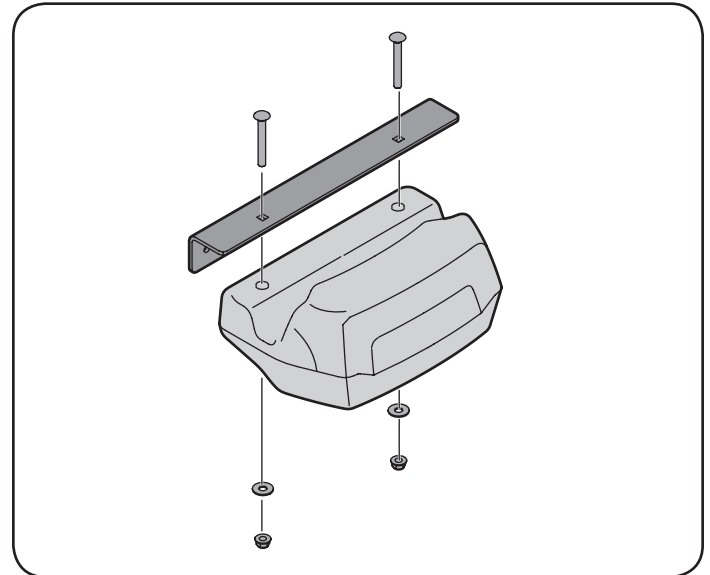
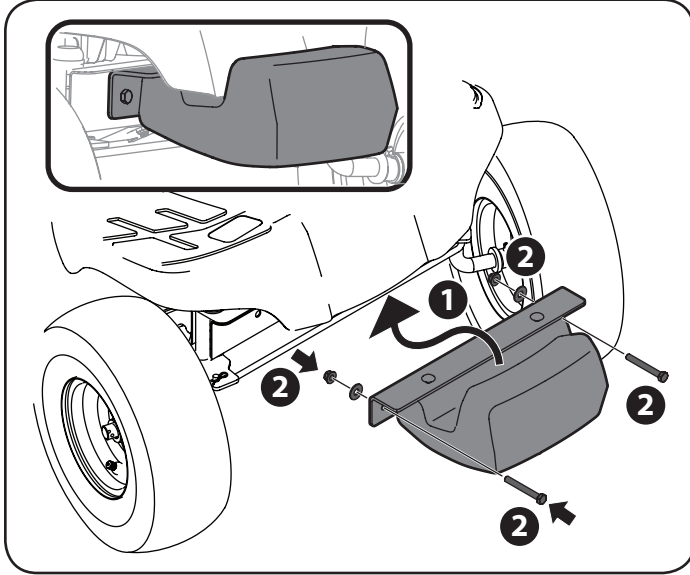

Figure 10
Figure 12
Assemble, then attach the weight bar to the front steering assembly using the hardware in pack 683-05147, as shown in Figure 10 and Figure 12.
1. Install the counter weight mounting bracket to the counter weight using two 710-0572 carriage bolts, two 736-0159 flat washers and two 712-04063 flange lock nuts from hardware pack 683-05147. See Figure 10.
- Secure the weight bar assembly to the tractor using two 710-0378 hex bolts, two 736-0159 flat washers and two 712-04063 flange lock nuts from hardware pack 683-05147. See Figure 12.